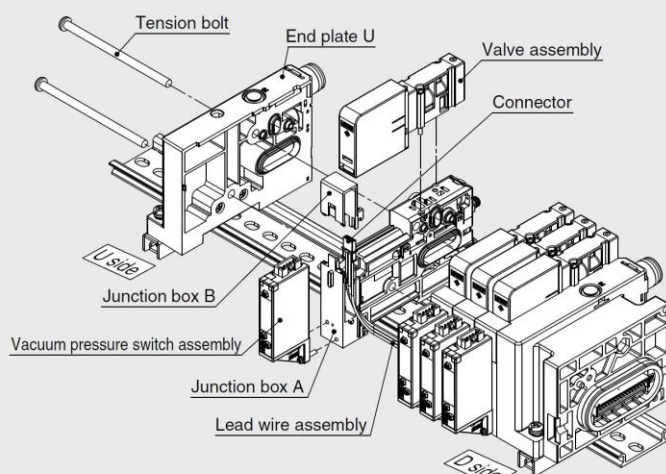

Fig. 1
- 4) Remove the switch assembly if there is one. (Be careful not to drop the O-ring. Refer to **Fig. 1**.)
- 2) Remove the switch assemblies if there are any. (Be careful not to drop the O-rings. Refer to **Fig. 1**.)